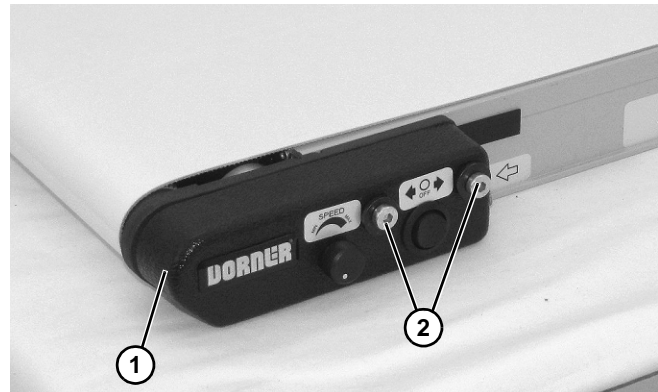

Figure 65
7. Install inframe drive side cover (**Figure 65, item 1**) with two head plate fastening screws (**Figure 65, item 2**).